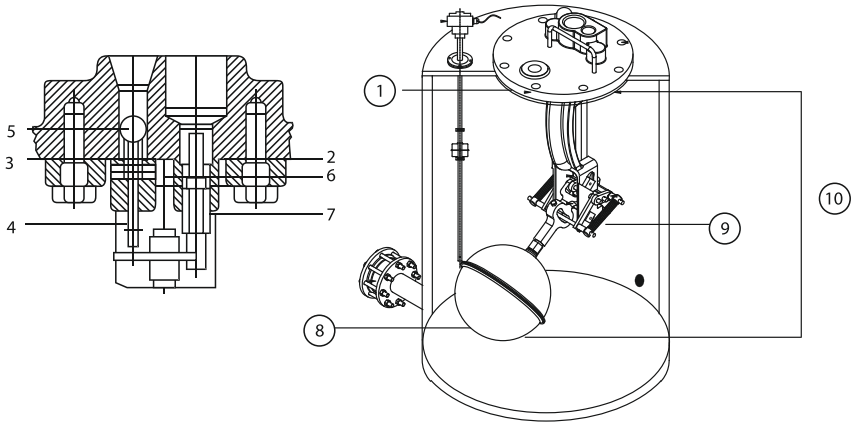

Figure 7: Available Spares of Compact Pressure Powered Pump Package Unit
9. Available Spares : (Refer to Figure 7)